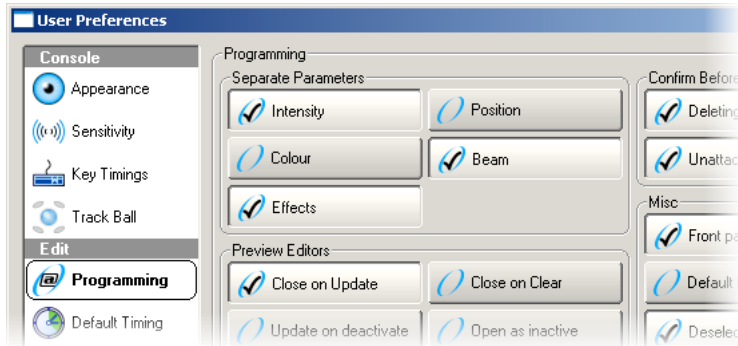

Figure 15.12. The Programming pane of the User Preferences window
2. Toggle separating parameters on and off by pressing the parameter type buttons; see Figure 15.12, “The Programming pane of the User Preferences window”.